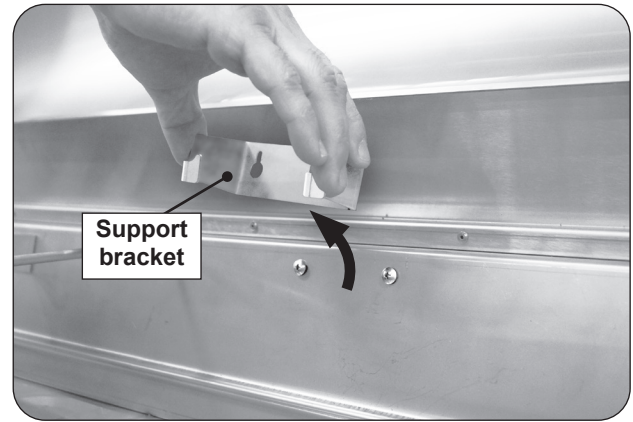

Fig. 28-1 Remove element support bracket
2. Locate the rear heating element support bracket and slightly loosen the two screws. Detach and remove the bracket by sliding it upward. See Fig. 28-1.